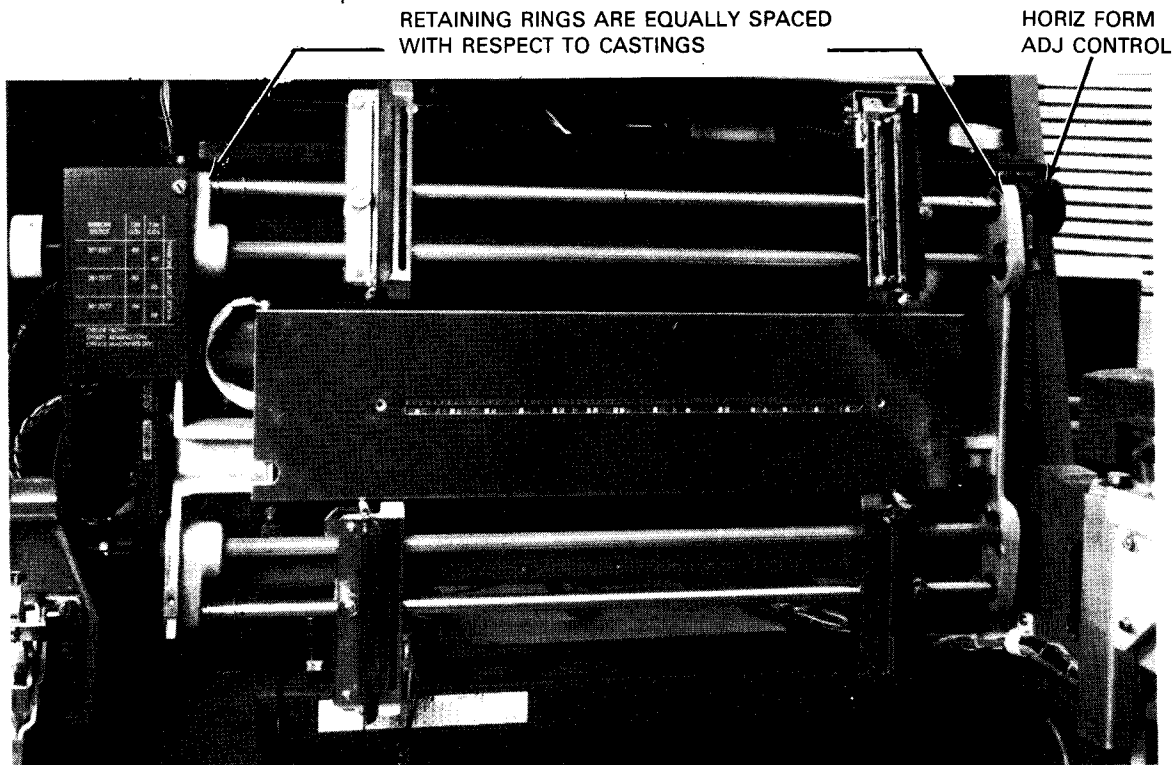

Figure 4-1. Preliminary Adjustments for Forms Loading
2. Set maximum form adjustment by setting HORIZ FORM ADJ control so that retaining rings on tractor supports are equally spaced with respect to the side castings. (Figure 4-1).